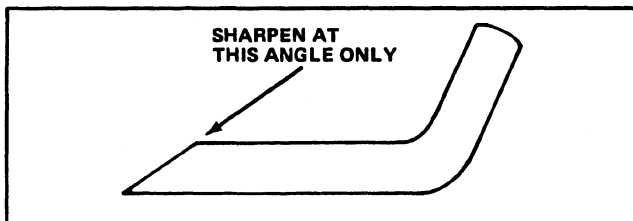

Figure 21
6. SHARPENING BLADE—Using a file, sharpen top side of blade (side facing top of mower housing) and maintain original cutting angle (Fig. 21). The blade remains balanced if the same amount of material is removed from both cutting edges.